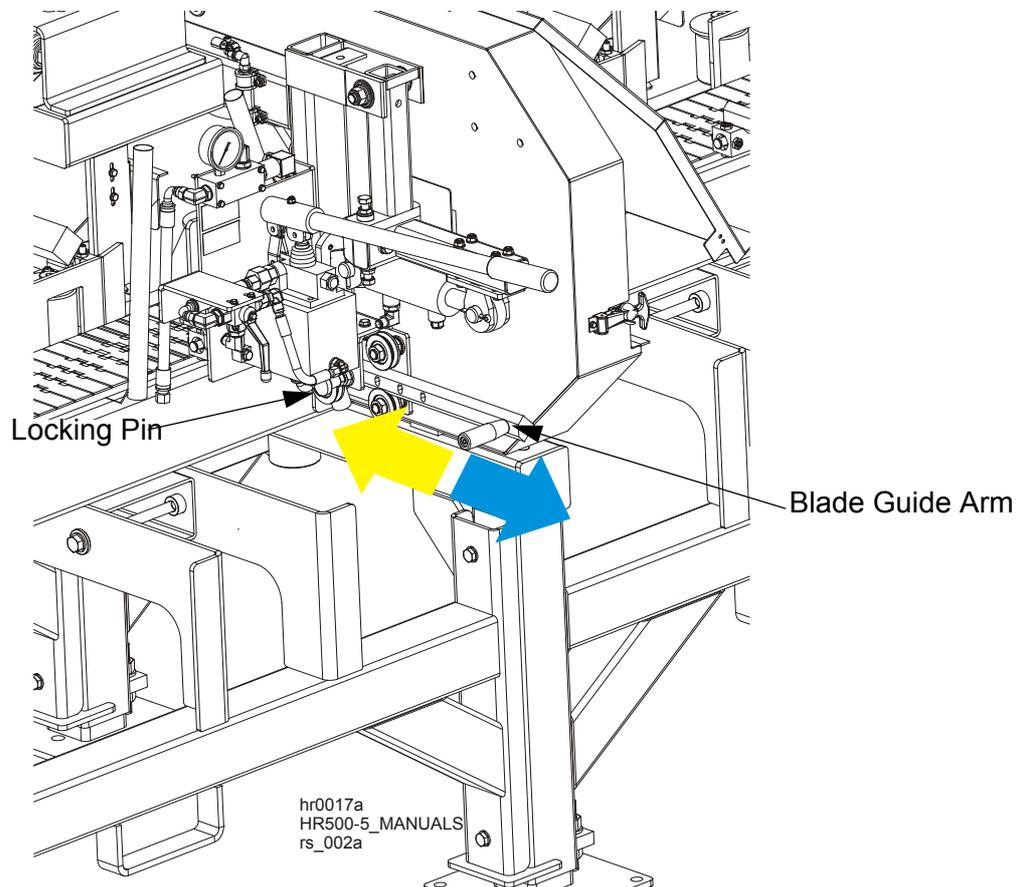

FIG. 2-19
**See Figure 2-19.** To move the blade guide arm, unlock the locking pin and slide the arm in or out. Lock the locking pin.